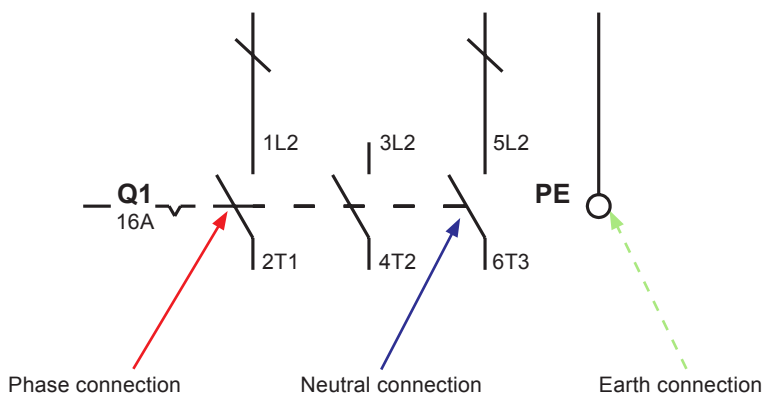

Fig. 2
Mains supply is directly connected to the primary side of the incoming control panel isolator (shown with the IP2X cover removed) and main earth terminal as shown in Figure 2.
- Check all electrical connections are secure and as per the wiring diagram (Section 3.3, Figure 2).